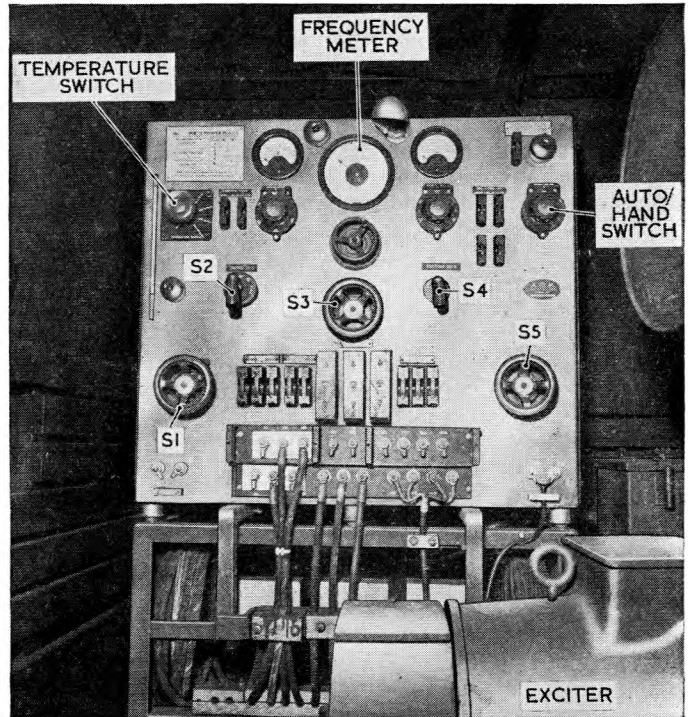

Fig. 7. R.V.456C : switchboard
11. Before proceeding with the preliminary inspection first ensure that switch S1 on the switchboard (fig. 7) is in the OFF position and that the AUTO/HAND switch is at AUTO. Turn the voltmeter switch to position 3.
19. The frequency of the alternator output voltage is proportional to the speed of the diesel engine. If the frequency is greater or less than 50 c/s, as indicated by the frequency meter (*fig. 7*), the engine speed must be adjusted appropriately by turning the governor (speed) control screw. The location of this screw can be seen from *fig. 9*.
20. This switch (*fig. 7*) has a dial calibrated in steps of 10 deg. C and must be set according to the air temperature shown by the thermometer mounted on the switchboard. When starting the plant in cold weather it will be found best to set the switch several divisions below that corresponding to the air temperature and to bring it up to the correct position gradually during the first 30 minutes running.